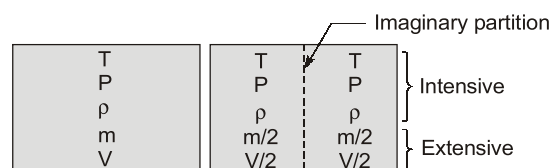

Figure 1.3
- An easy way to determine whether a property is intensive or extensive is to divide the system into two equal parts with an imaginary partition as shown in figure 1.3. Each part will have same value of the property in case it is intensive but half the value in case it is extensive.